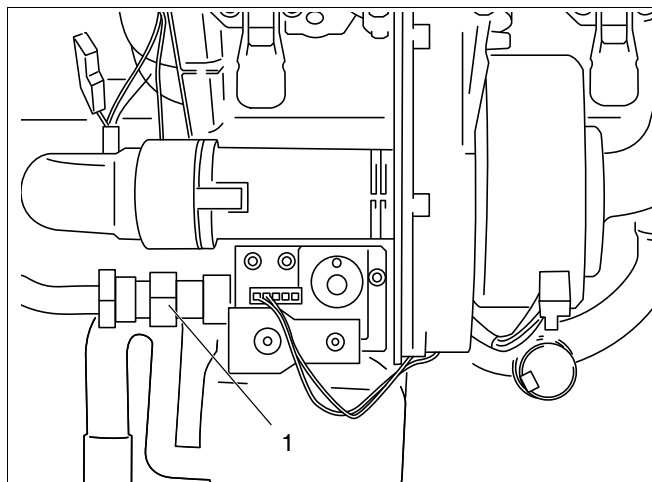

fig. 88 Loosening the gas control valve
- Loosen the union nut of the gas control valve (see fig. 88, pos. 1).